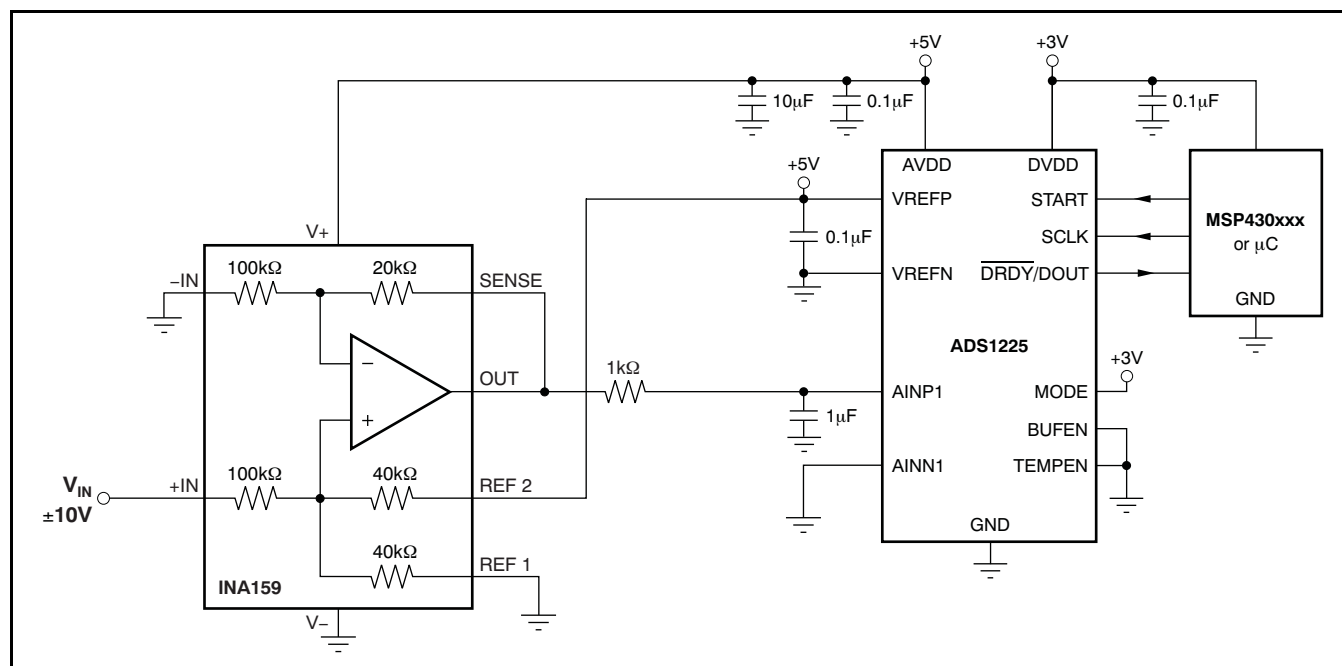

**Figure 32. Using the OPA2333 as a Gain Stage in Front of the ADS1225**
**Figure 32** shows the schematic of the ADS1225 for measuring small output signals such as the output of a bridge sensor or load cell. In this application, the load cell is combined with the ADS1225 and an **MSP430** microcontroller. An **OPA2333** is used to buffer the inputs and to provide the gain of the load cell signal. A 5V source is used as the reference and the excitation, although any clean source can create a proper ratiometric signal for the reference.